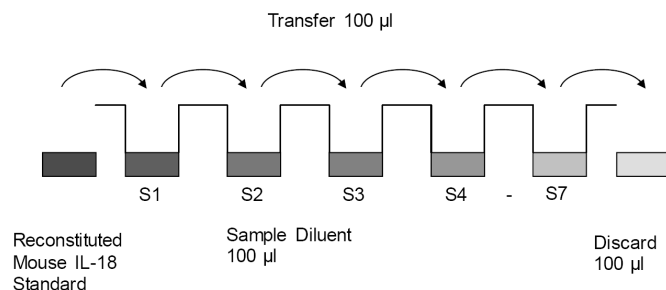

Fig. 6 Dilute standards - microwell plate
5. Repeat serial dilutions 5 more times thus creating the points of the standard curve (see Figure 6).
Add 100 µL of Sample Diluent in duplicate to all standard wells. Pipette 100 µL of prepared standard (see Preparation of Standard "Mouse IL-18 standard" on page 3, concentration = 4000 pg/mL) in duplicate into well A1 and A2 (see Table 1). Mix the contents of wells A1 and A2 by repeated aspiration and ejection (concentration of standard 1, S1 = 2000 pg/mL), and transfer 100 µL to wells B1 and B2, respectively (see Figure 6). Take care not to scratch the inner surface of the microwells. Continue this procedure 5 times, creating two rows of mouse IL-18 standard dilutions ranging from 2000.0 to 31.3 pg/mL. Discard 100 µL of the contents from the last microwells (G1, G2) used.